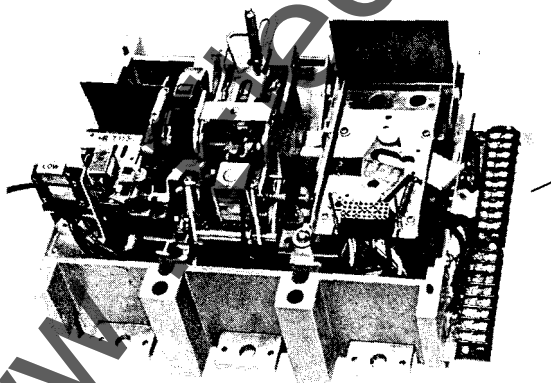

FIG. 39
3. If auxiliary switches are to be installed in the right pole, remove interchangeable solid state trip unit by depressing lock release lever while lifting up on trip unit. Remove trip unit mounting plate. See Fig. 39.